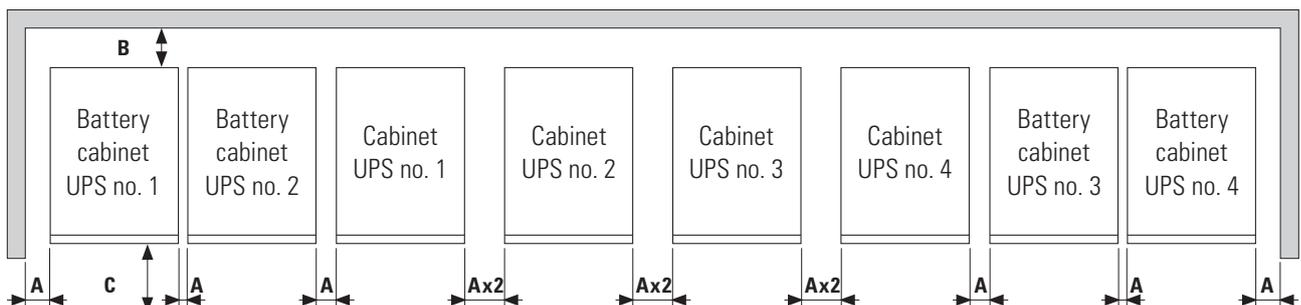

Fig. 22. Minimum dimensions for ventilating a UPS system in parallel.
- *Fig. 22* shows an example of 4 parallel units with their respective battery cabinets. For systems with fewer units, act accordingly on a case-by-case basis.